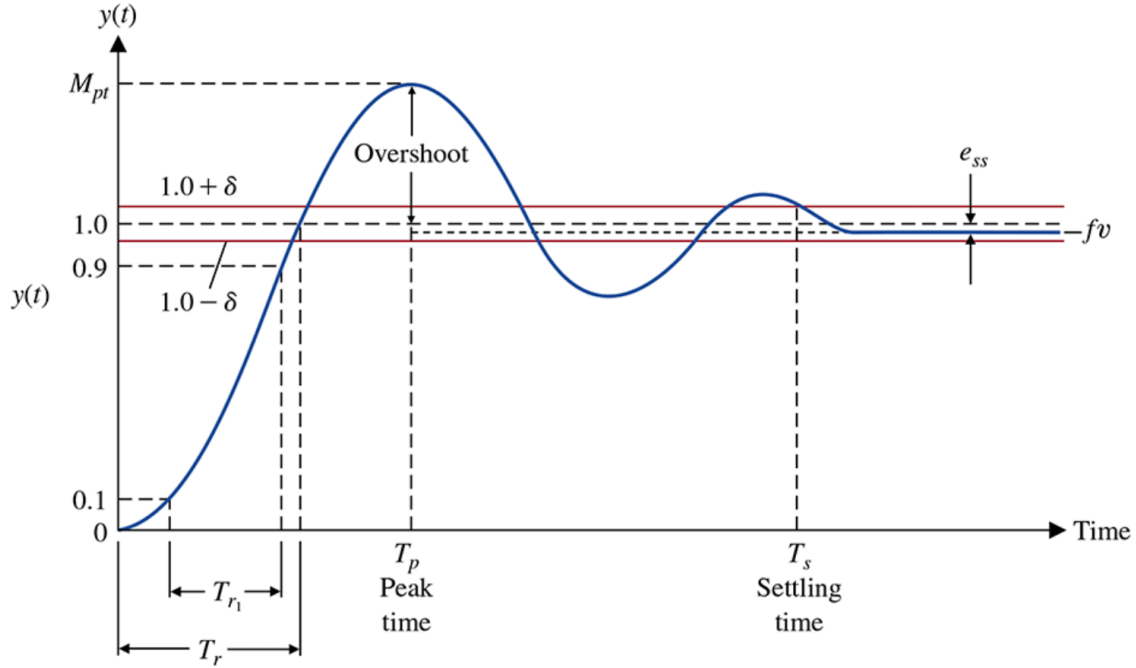

Figure 2: Generic step response of an under-damped second-order system (Figure 5.6 of Dorf and Bishop, *Modern Control Systems*, 14th edition, Pearson, 2022).
where $\phi = \tan^{-1}\left(\frac{\sqrt{1-\zeta^2}}{\zeta}\right) = \cos^{-1}(\zeta)$. A plot of a generic step response from a standard under-damped second-order system is given in Figure 2.
Pre-lab Question 5 (3 marks) Consider the generic step response from Figure 2. Show that the percent overshoot is
- **Time domain identification:** We will observe the step response of the system using a proportional feedback gain of $K = 4$. We will experimentally measure peak time (T_p) and percentage overshoot ($P.O.$), as defined in Figure 2 and its associated discussion in Section 2.1, based on which we can calculate the unknown plant parameters.
- We have set up our model such that an entire period of the step response (6 seconds) will be visible on your Simulink *scope* screen. The initial part of your step response should look like Figure 2 which is what we are interested in.
- Measure the height of the first overshoot peak which is the largest overshoot peak. This will give you the peak value of the step response denoted as M_{pt} in Figure 2.
- Next measure the steady-state value of the step response which occurs after the settling time and is denoted as fv in Figure 2. We called it y_{ss} in the Pre-Lab hints document.